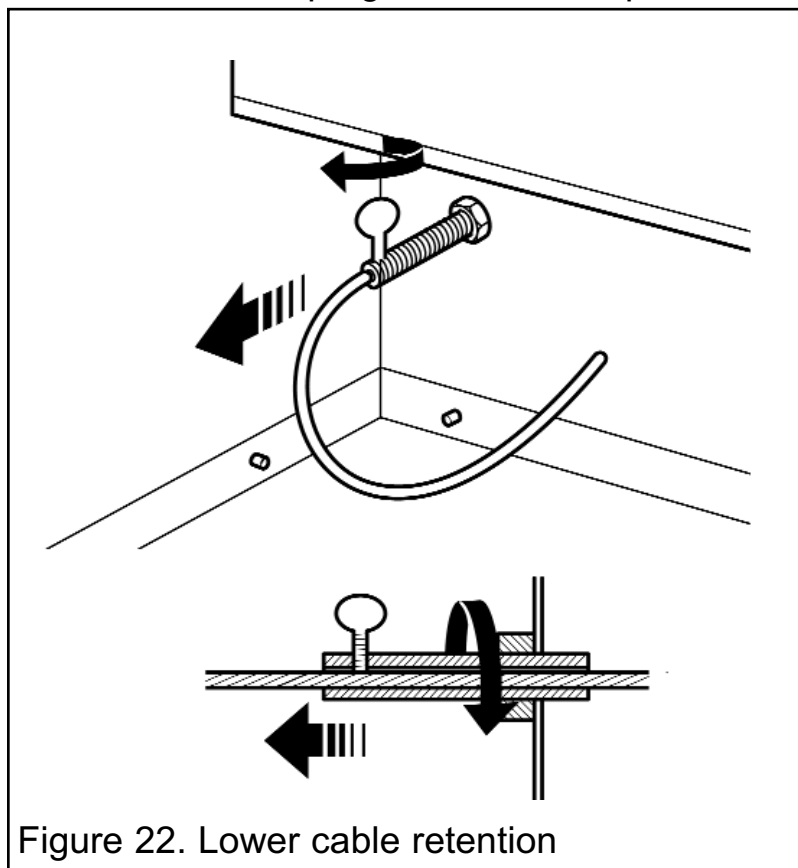

Figure 22. Lower cable retention
**11.** Pull each cable taut. Push the cable retainers hard up against the back panel. The end of the cable adjuster will pass into the hole. Tighten the screws in the retainers so that they clamp the cables in position. Apply tension to the cables by turning the hexagonal adjusters by hand (See figure 22).